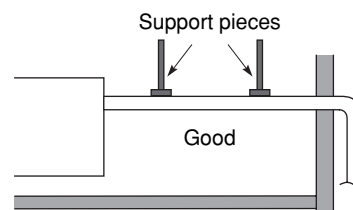

Fig. 3-68
- Do not apply force to the piping on the unit side when connecting the drain pipe. The pipe should not be allowed to hang unsupported from its connection to the unit. Fasten the pipe to a wall, frame, or other support as close to the unit as possible. (Fig. 3-68)